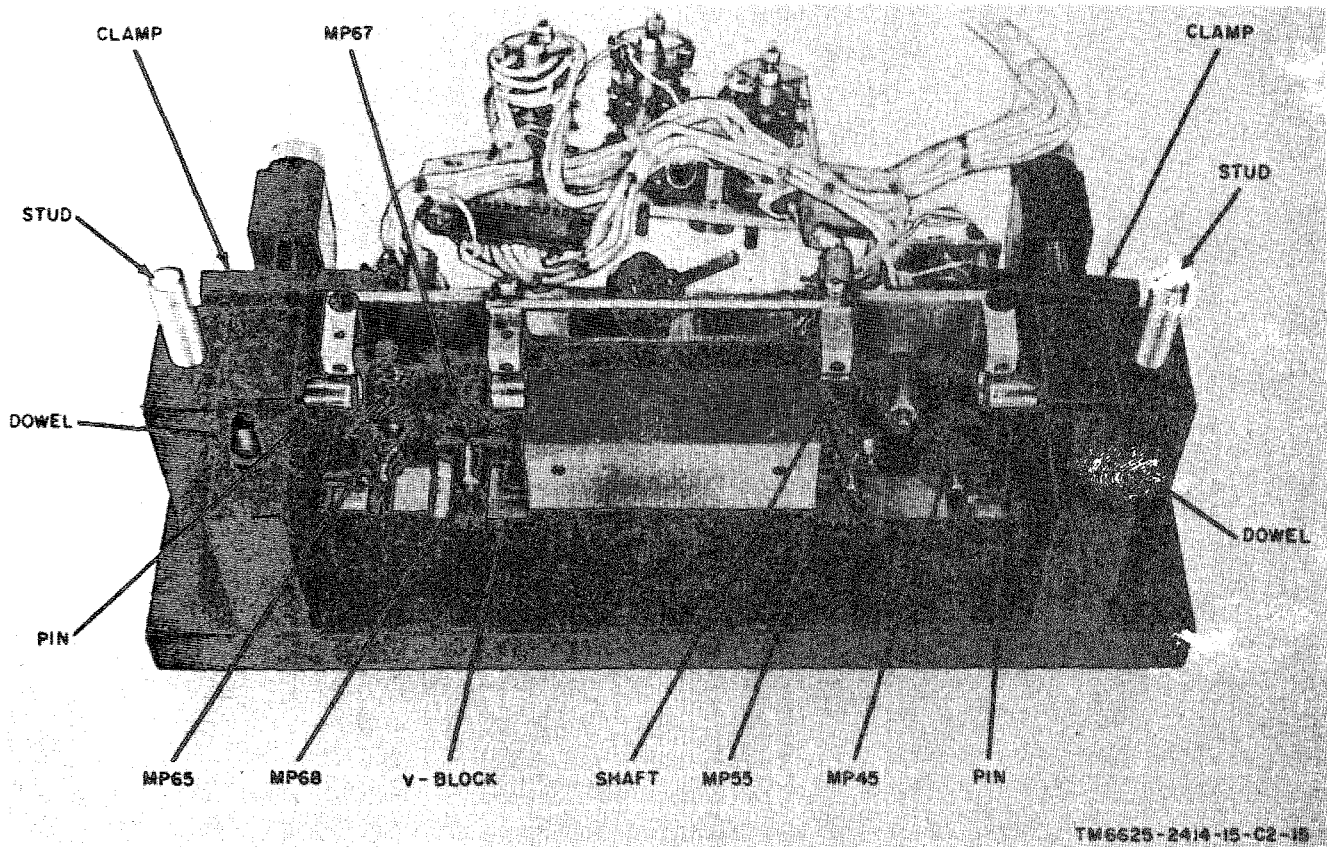

Figure 2-2. AN/ARC-116 tuning control assembly mounted in support and drill fixture with top plate removed.
b Remove the top plate from the support and drill fixture by unscrewing the two knurled knobs and by lifting the top plate straight up off studs and dowels (fig. 2-2 and 2-3).
c. Position the lock pin to be removed so that it is vertical to the bottom of the fixture when installed, then position the chassis and plate assembly in the fixture with bores for the counter shaft resting against pins and shaft in the fixture and switch shafts seated in grooves in the V-block with the gears and sprocket tight against the V-block (fig. 2-2).